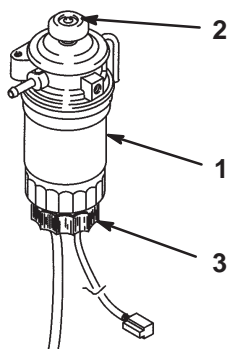

Figure 28
2. Press the primer button on top of the fuel filter until resistance is felt (Fig. 28).